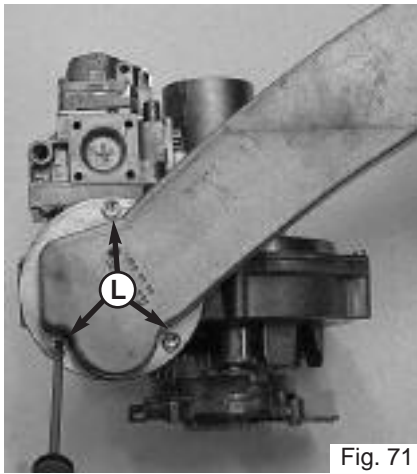

Fig. 71
3. Unscrew the three screws L on the air/gas pipe and remove (Fig. 71);